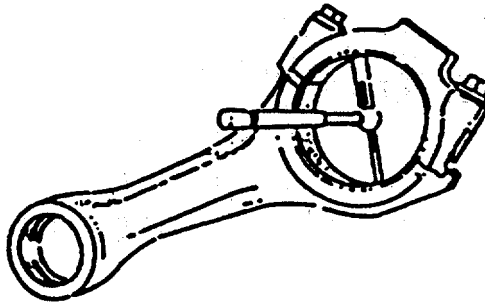

FIGURE 4-41. Rod Bearing Clearance.
- h. Determine rod bearing clearance as shown in FIGURE 4-41.